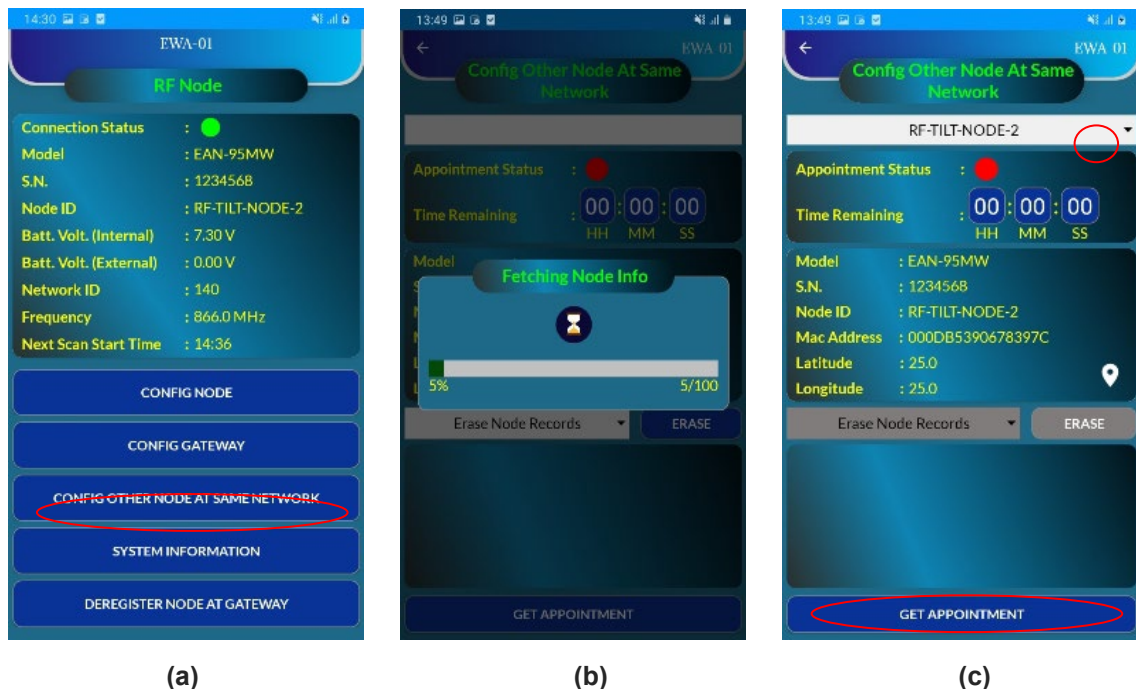

Figure 7-6
- At the home screen click on the "CONFIG OTHER NODE AT SAME NETWORK" tab, as illustrated figure 7-6 (a).
- To configure a specific node, choose the desired node from the dropdown menu, as shown in figure 7-6 (c).